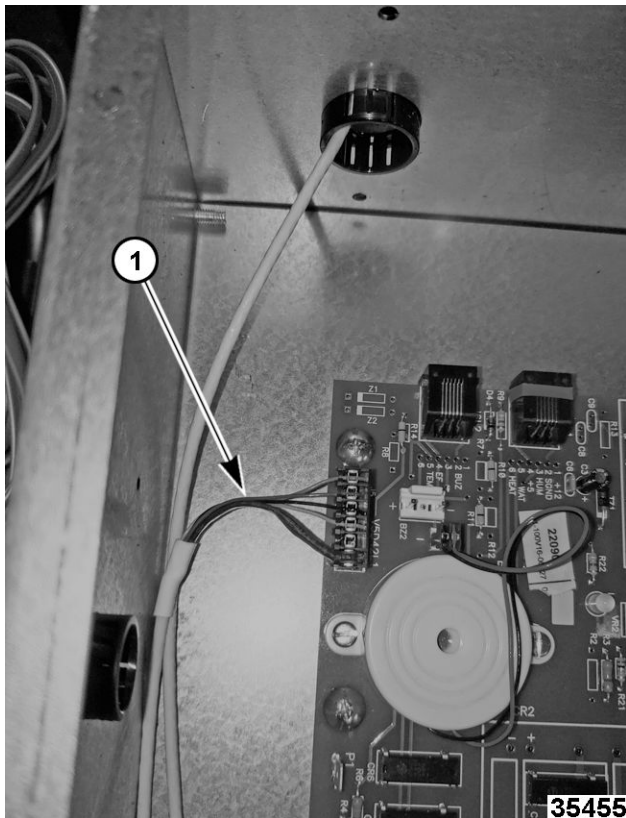

Fig. 65
11. Connect humidity sensor harness (1, Fig. 65) to circuit board in service entrance box.